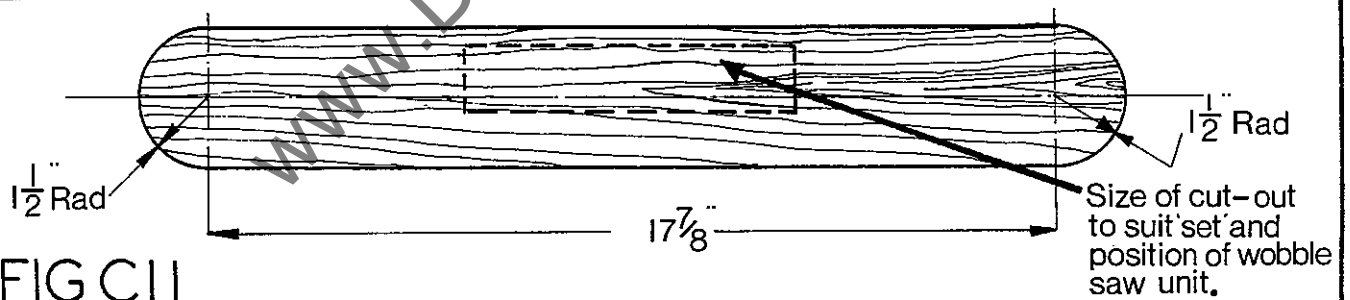

FIG C11
4. To adjust the amount of wobble, unlock collar 'A' on wobble unit with special 'C' spanner QS71, and move saw complete with inner collars 'B' & 'C' to the required position. When set, re-lock with spanner QS71 and re-fit special gap plate which can be supplied to order manufactured from steel, or made to suit by the owners of the machine as shown in (FIG C11) from wood.